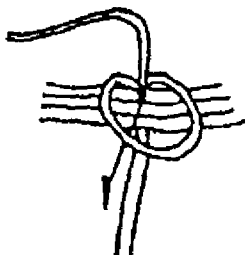

Fig. 3-28-5
- e. Take the end of the rope from your left shoulder and pass it downward through the loop. (Fig. 3-28-5)